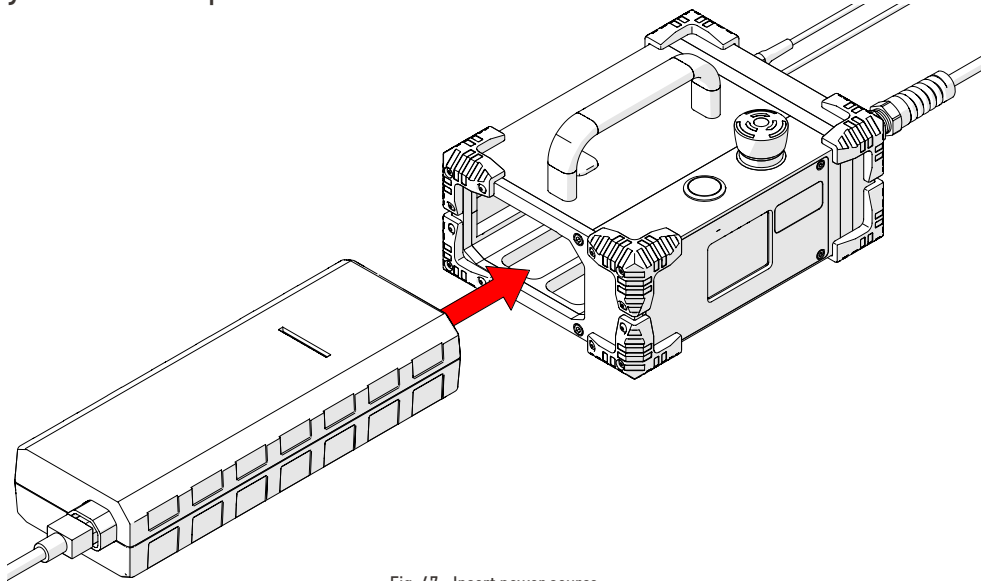

Fig. 67 - Insert power source
1. Insert the power source (Fig. 67) into the power controller dock.